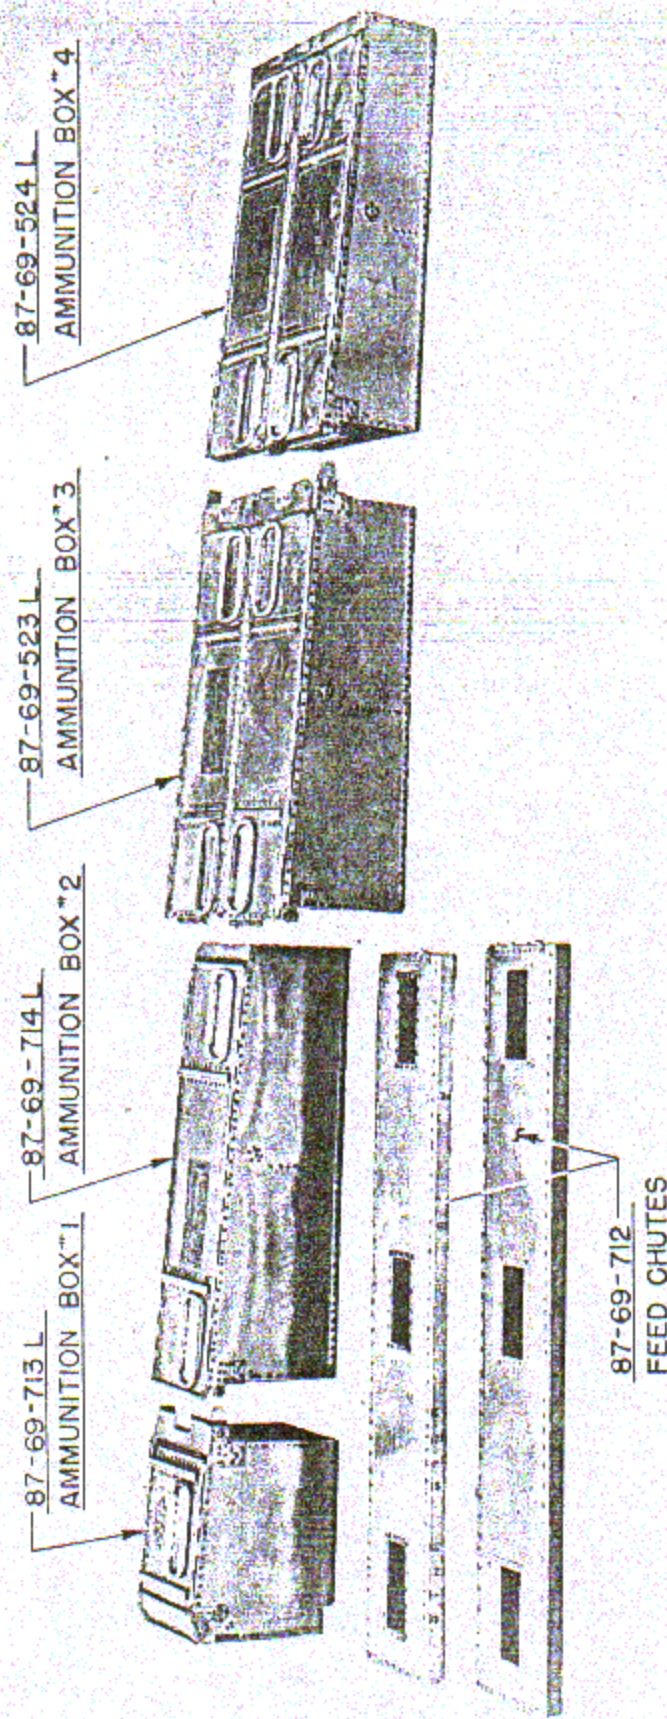

Fig. 97 - Ammunition boxes and chutes.
(1) Sight Adjustment: The gun sight assembly may be adjusted in a rotational, horizontal or vertical direction. Rotational adjustment may be accomplished by means of two adjustment bolts on the top side of the connection between the yoke assembly and the base assembly, forward of the instrument panel. Four screws, 90° apart beneath the sight assembly, regulate the horizontal and vertical adjustment. The top and bottom screws control the vertical adjustment and the right and left, the horizontal adjustment.
(2) Lens Adjustment: The lens adjustment is set by the manufacturer and further adjustment should not be necessary unless the set screw in the adjustment knob has become loose, thereby allowing the knob to turn. The lens may be adjusted by turning the adjustment knob to the left side of the sight assembly. The sight should be so adjusted that the reticle image, when viewed as reflected on the mirror and superimposed on a target approximately 500 yards distance, does not change in relation to the target as the head is moved over the field of vision.
d. Ammunition Boxes. - See Figure 97, 98, 99, and 100. There are two single and two double stainless steel ammunition boxes located outboard of the gun compartment in each wing panel. Each of the double boxes is divided lengthwise, into two equal compartments. Each compartment in the double boxes is partitioned in the middle; these partitions serve to minimize the force required to pull the ammunition belts from the boxes to the guns. The two single ammunition boxes are similarly constructed, but each have just one compartment; the
e. Chutes. - See Figures 97, 98, and 101. The ammunition is guided thru feed chutes from the ammunition boxes to the belt holding pawl of the guns. There are two long removable feed chutes located in the ammunition box compartment of the wing which guide the ammunition from the front and rear compartments of boxes #3 and #4, to the feed chutes within the gun compartment. The two removable chutes are pinned to box #3, after the ammunition is started in the chutes. There are four feed chutes (the feed way to the inboard gun is comprised of two separate chutes pinned together by a pin lock hinge) in the gun compartment which guide the ammunition belts to the pawl of the guns. As the ammunition is fired, the empty cases are ejected from the bottom of the gun and are guided thru the lower surface of the wing by case chutes. The links are ejected from the side of the gun and are guided thru the bottom of the wing by link chutes. One case chute and one link chute is provided for each gun. All feed chutes and link and case ejection chutes are made of stainless steel.